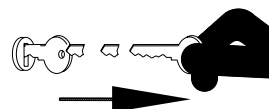

FIG. 4-54
2. If a higher flow is desired and torque is not a factor, loosen the (2) flange nuts on each baffle, see figure 4-54.
3. Use the lift handle to raise each baffle to the desired position. See figures 4-54 & 4-55.
4. Torque all hardware to specification. See "Torque Chart" in this section. See figures 4-54 & 4-55.